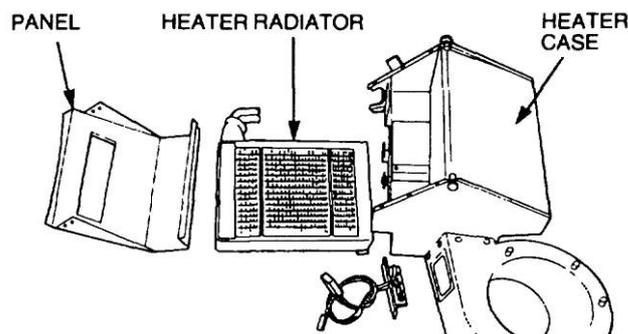

Figure 165 Heater Assembly - Exploded View
- b. Using a suitable drill, remove the twenty four rivets securing the panel to the heater case, noting that three of the rivets are located beneath the foam seal. Remove the panel and heater radiator (Figure 165).